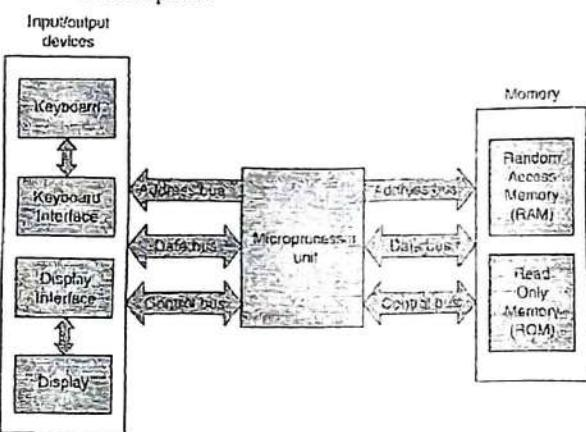

Fig. 1.1.1 : Block diagram of a microcomputer
Fig. 1.1.1 shows the block diagram of a Microcomputer.
- The microprocessor unit or the microprocessor contains Arithmetic and Logical Unit (ALU) as well as a Control Unit (CU).
- It mainly contains Random Access Memory (RAM) and Read Only Memory (ROM) as shown in the Fig. 1.1.1.
- Hence, for each input or output device a separate interface is required as shown in the Fig. 1.1.1. Keyboard interface to interface the keyboard to microprocessor unit and similarly display interface to interface display to the microprocessor unit.